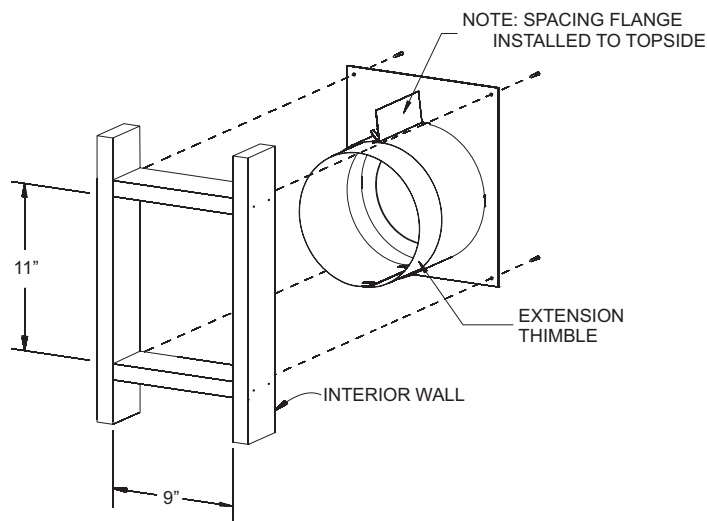

Figure 47
2. Cut hole in wall for wall thimble/firestop assembly (Figure 47) into your combustible wall. Note: On brick or block exterior wall a 7" (178 mm) diameter hole needs to be cut.
Measure the total wall thickness to determine whether or not the extension thimble is to be used. If the combustible wall depth is over 5 3/8" (137 mm), then the extension thimble should be used (Figure 47).
3. Install the wall thimble assembly through the framed opening so the firestop plate is on the interior wall (Figure 47). Telescope section should extend all the way through the exterior wall. Attach with (4) 10 x 1" screws.